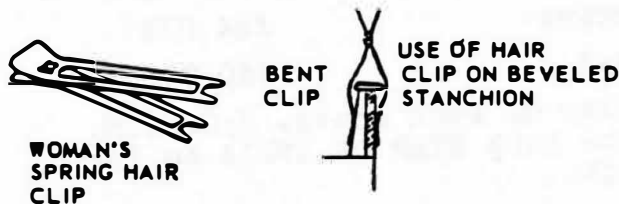

Figure 2
**IN YOUR WIFE'S HAIR.** There are about 1000 different types of hair clips which can be used as small clamps for model work. The good thing about these are that they can be readily bent to suit the job. Figure 2 shows an example.